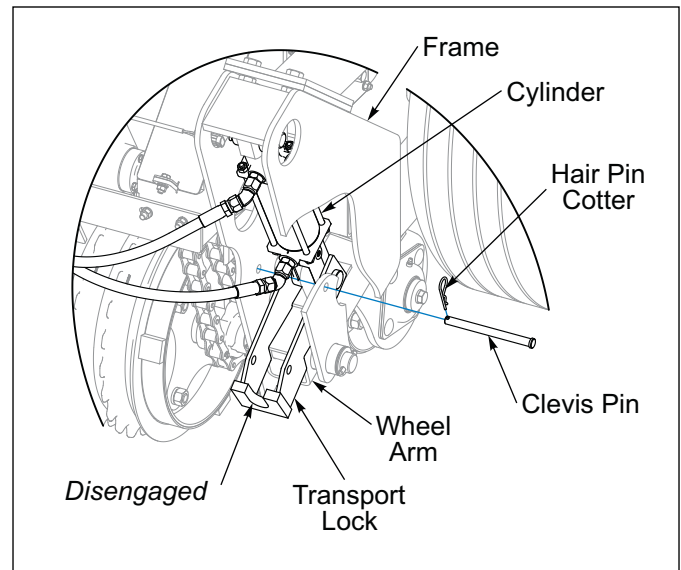

Figure 3-7: Transport Lock Disengaged
5. Disengage each Transport Lock so that the Transport Lock rests on the Wheel Arm. Insert the Clevis Pin in front of the Transport Lock. **See Figure 3-7.**
1. Raise the Seeder fully to extend the Hydraulic Lift Cylinders and rotate the Transport Locks to the stored position. Secure with the Clevis Pins and Hairpin Cotters. **See Figure 3-7.**
2. Disengage the Transport Locks. **See Figure 3-7.**